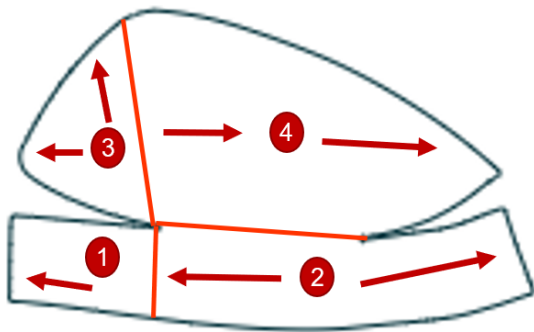

Fig 3.
2. Slightly pull the film to the outside edge of the mirror and squeegee into place. Squeegee along the bottom of the mirror from Step 1 to Step 2 to complete the lower mirror installation. See Figure 3.
3. Align the pattern along the top inside corner of the mirror. Ensure your edges are within tolerance and squeegee into place. Use the alcohol solution if necessary to ensure placement. See Figure 3.
4. Slightly pull the film to the outside edge of the mirror and squeegee into place. Squeegee along the top of the mirror from Step 3 to Step 4 to complete the upper mirror installation. See Figure 3.